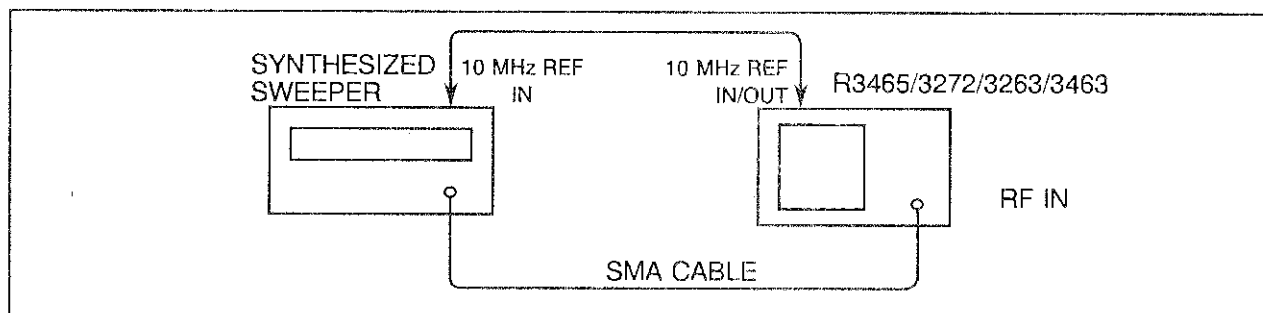

Figure 1-16 Input Attenuator Switching Accuracy Test Setup
- (2) Connect the equipment as shown in Figure 1-16.